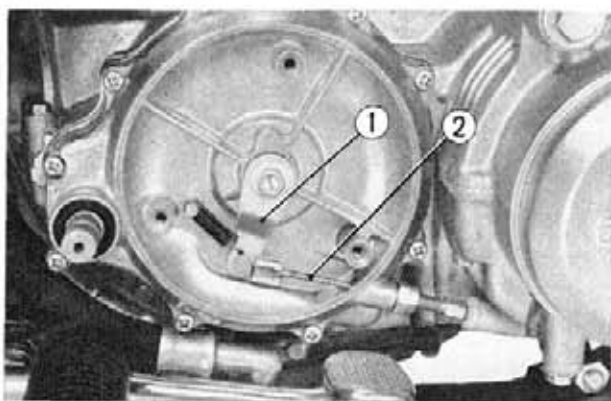

Fig. 2-3 ① Clutch lever
② Engine hanger bolt A
8. Disconnect the clutch cable from the clutch lever. (Fig. 2-3)